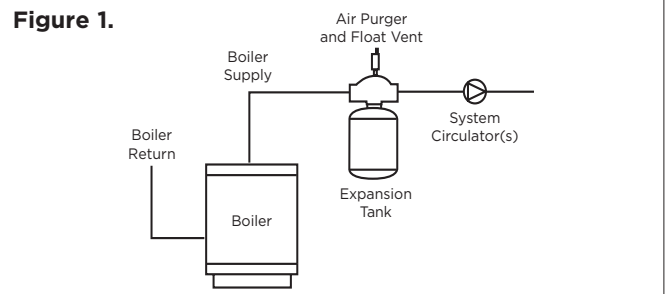

Figure 1.
2. Install the expansion tank on the supply side of the boiler, on the suction-side of the heating circulator(s) (see Figure 1).
2. The expansion tank must not be placed overhead in the floor joist space. When replacing a plain-steel tank, the expansion tank should be relocated per Figure 1.